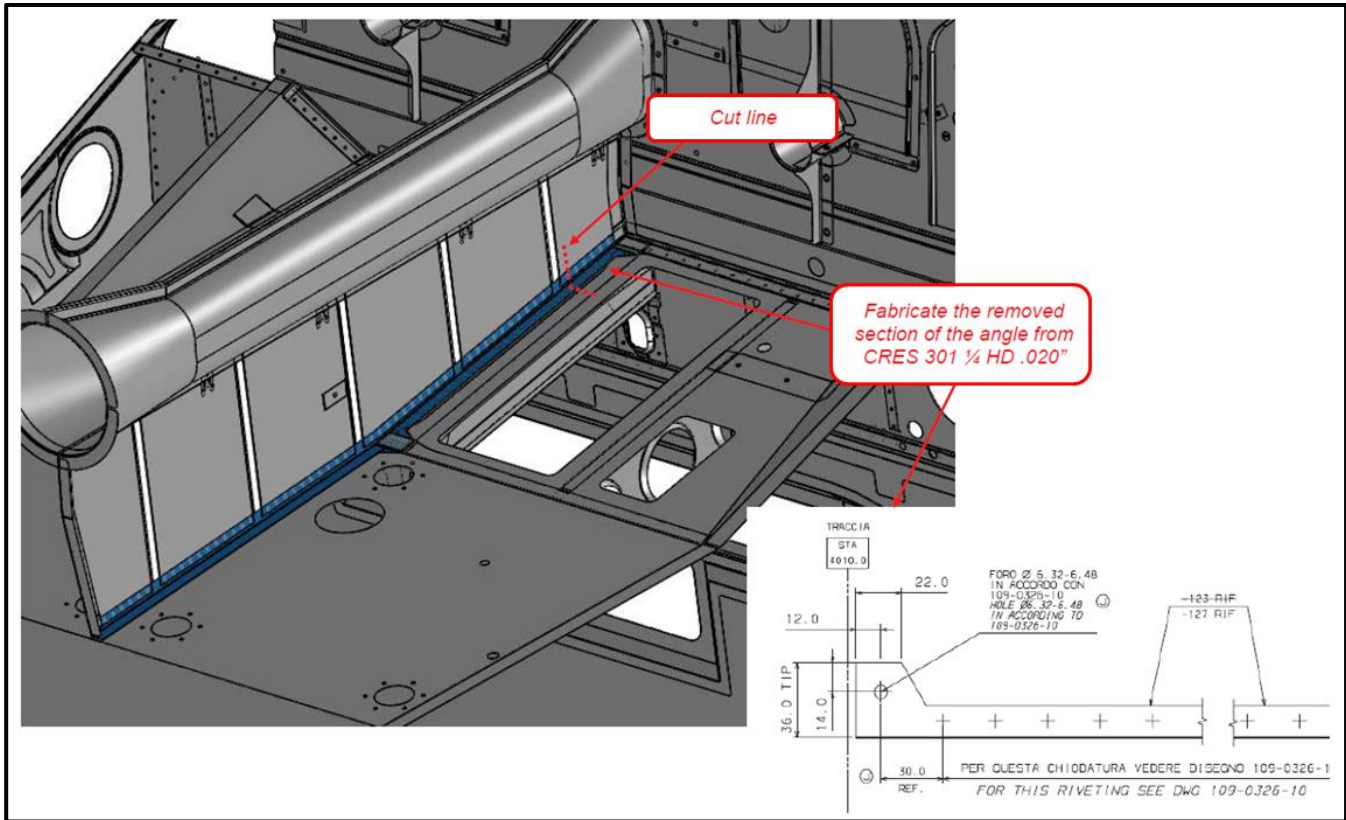
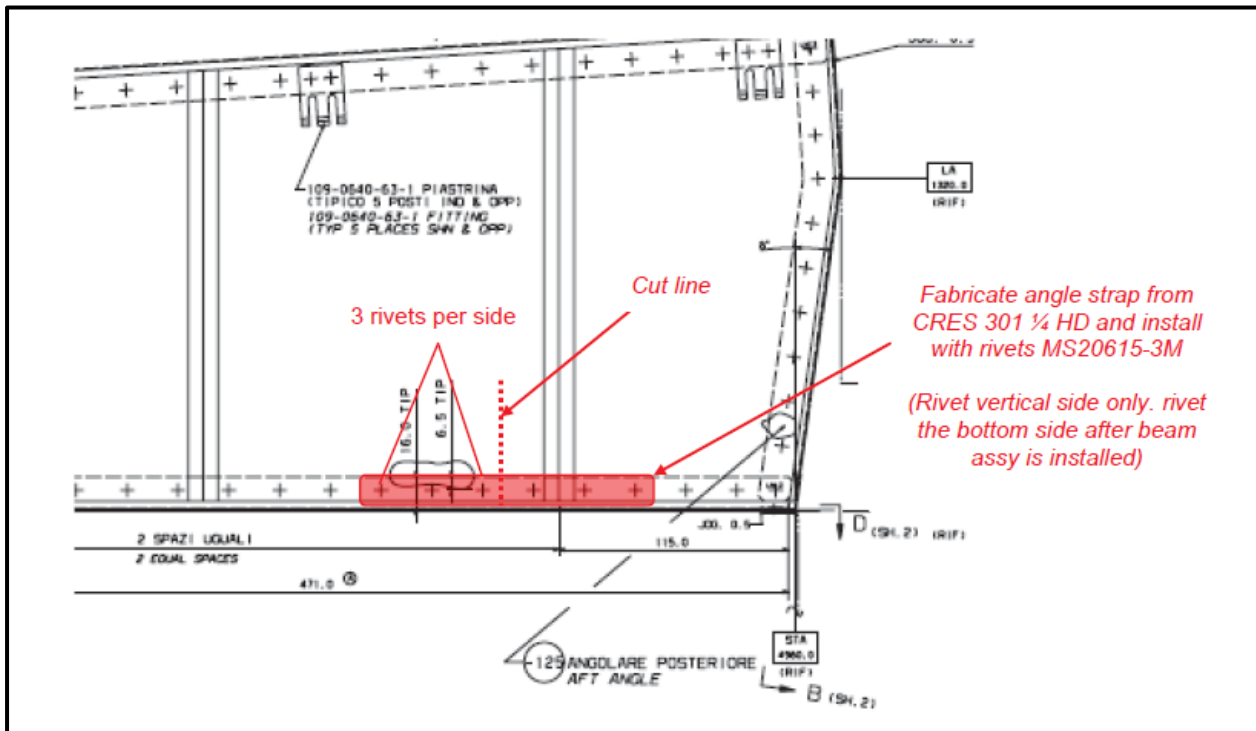

Figure 8 - Beam Assy STA4010.0 to STA4460.0 – Replacement procedures
Figure 9 - Beam Assy STA4010.0 to STA4460.0 – Replacement procedures
12. Splice angle 109-0641-17-127 as shown in Figure 8 & Figure 9. (Supplies Ref.10 for both splice & strap)